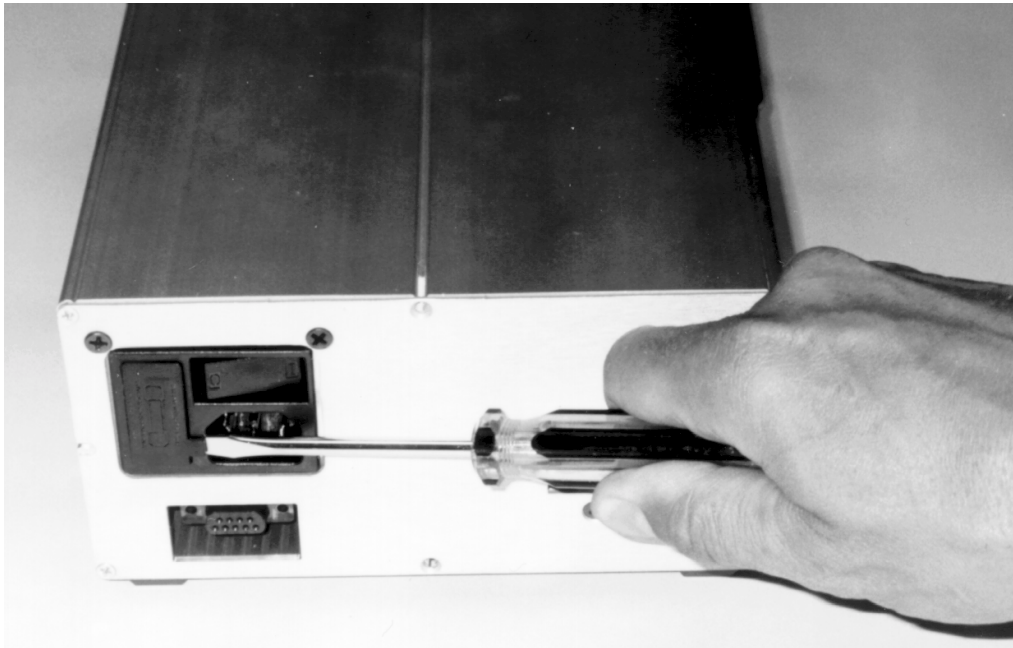

Figure 28 - Remove Fuse Drawer
2. The fuse is located in the small drawer on the left side of the power inlet module. Remove the fuse drawer by using a small flat blade screwdriver to pry under the tab that extends into the left side of the modular power connector. See Figure 28.